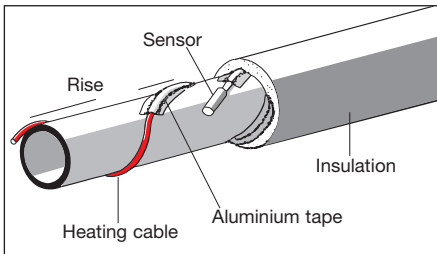

Fig. 4
3. The cable is wrapped in a spiral around the pipe, see fig. 4+5.